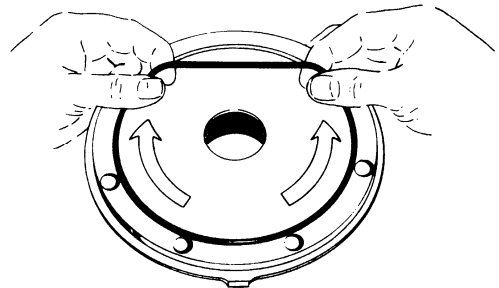

Figure 11 – Head O-Ring Installation
7. Install a new head O-ring (72) in the groove on the inside face of the head (20). Lay the O-ring flat and start in on one side of the groove, stretching ahead with the fingers, as shown in Figure 11.